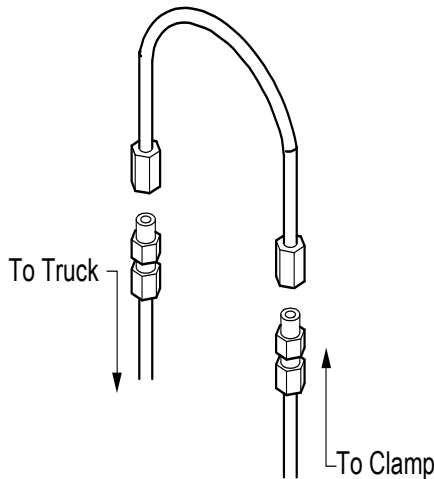

Figure 4-1, Jumper Line
2. Purging can be accomplished by installing a jumper line and operating each hydraulic function (clamp, rotate and side shift if equipped) in each direction for a minimum of 30 seconds. (Figure 4-1 Hoses should meet or exceed SAE100 RI Type AT, with maximum working pressure of 3,000 psi for all attachment functions.)